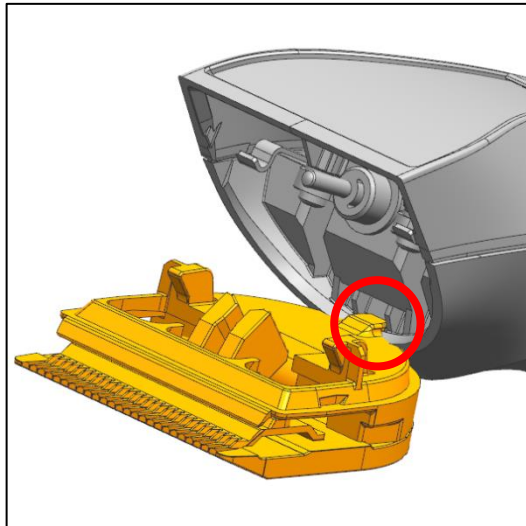

Fig. 38
- a) Place the blade set with the rear mounting nose into the lower housing (Fig. 38).